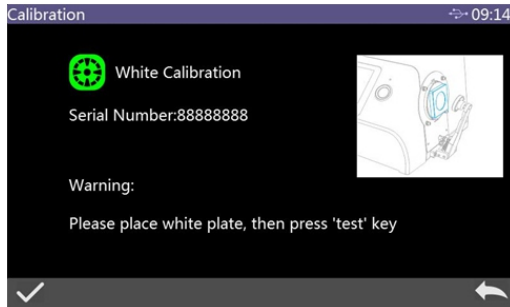

Figure 6 Reflective White Calibration
4. It will automatically enter White Calibration after Black Calibration is finished as shown in Figure 6. Place well white plate (the same step as how to place black cavity), then press test key to start white calibration, or click  to cancel and quit the white calibration.